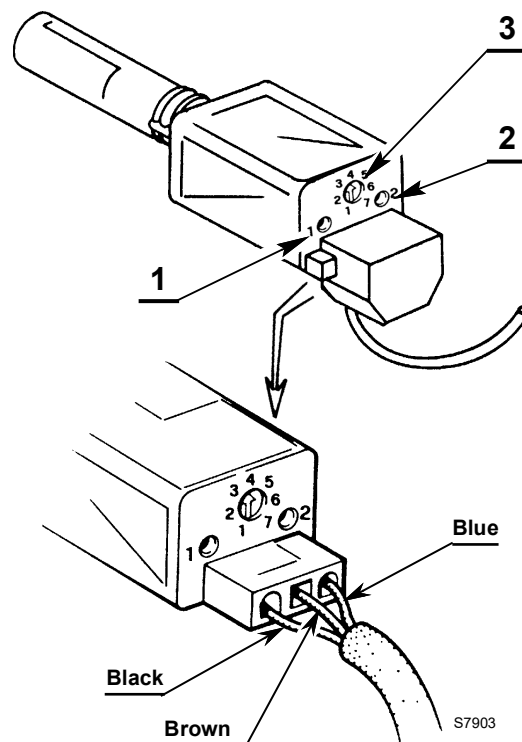

Fig. 14
- potentiometer 3)(Fig. 14) adjusts sensitivity.
- LED 1)(Fig. 14) indicates sensitivity.
- LED 2)(Fig. 14) indicates operation.
- Adjust the potentiometer index 3)(Fig. 14) by turning anti-clockwise until LED 1)(Fig. 14) flashes, thus defining the minimum notch value.
- Adjust the potentiometer index 3)(Fig. 14) by turning clockwise until a steady light of LED 1)(Fig. 14) is obtained. Consider the final calibration as the minimum value measured by increasing it by 1 or 2 notches.